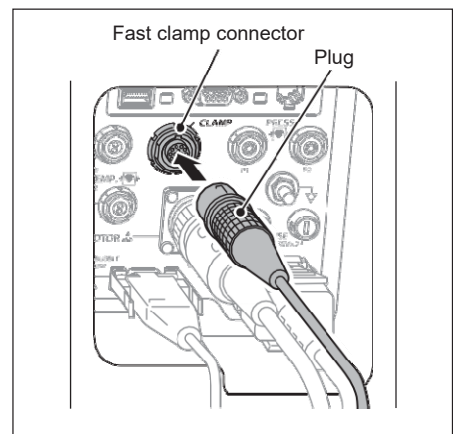

Figure 1-23
- Insert the plug of the Fast Clamp into the fast clamp connector on the rear panel. (Figure 1-23)